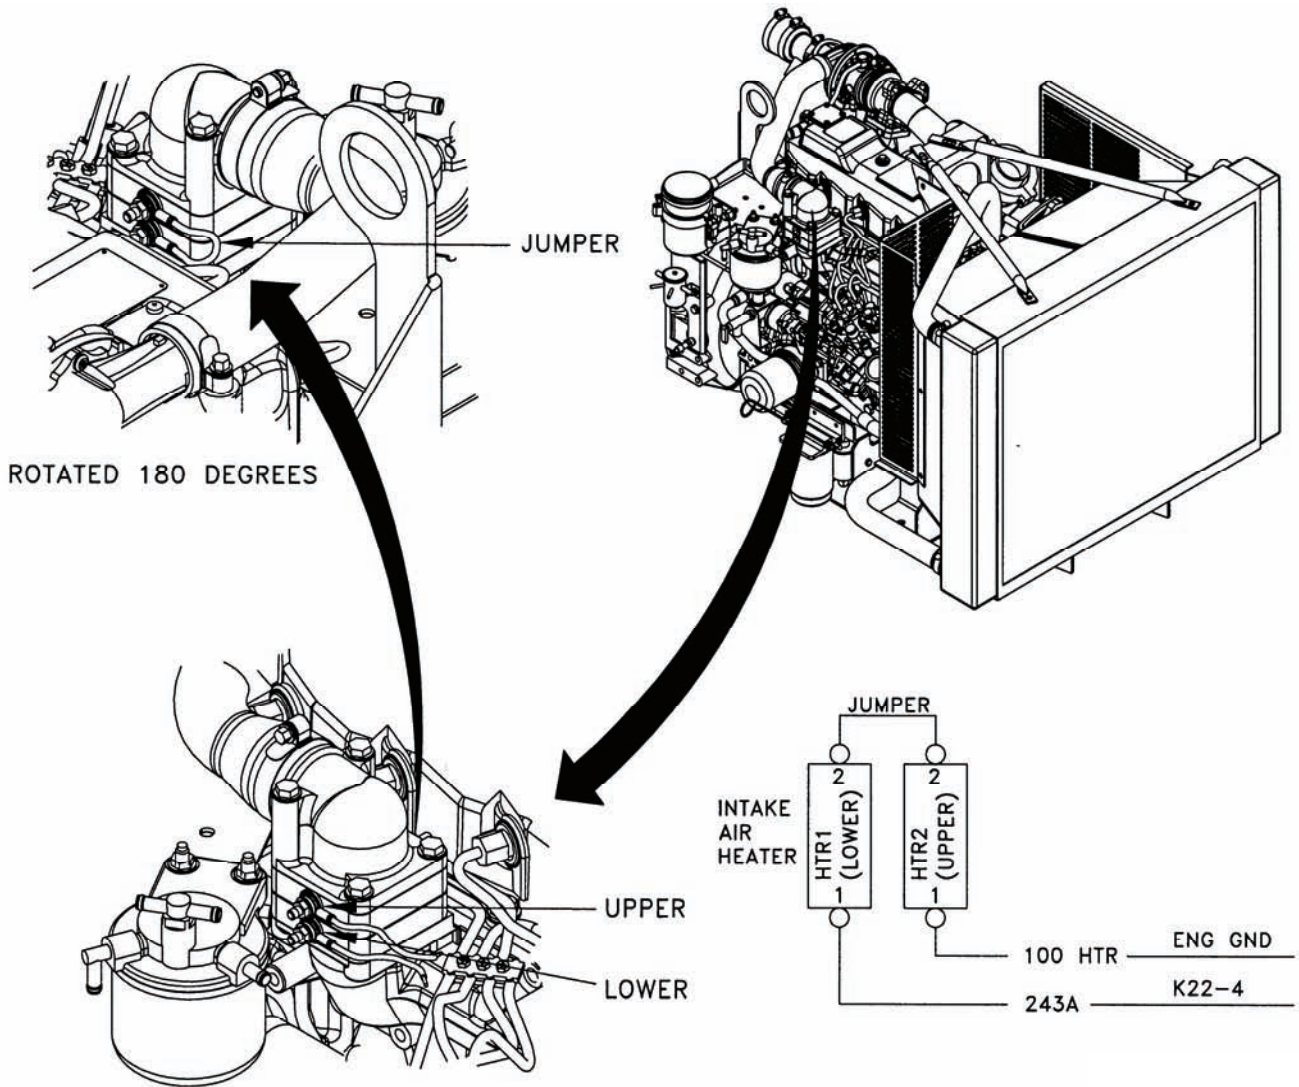

Figure 5-40. Intake Air Preheater Wire Harness.
- aq. Connect end of wire 243A8 to lower intake air preheater terminal 1 (Figure 5-40).
- ar. Locate single wire assembly 100HTR (Item 75, Table 5-1) and connect to upper intake air preheater terminal 1 (Figure 5-40).
- au. Connect wire labeled JUMPER between terminal 2 of upper intake air preheater and terminal 2 of lower air intake preheater (Figure 5-40).